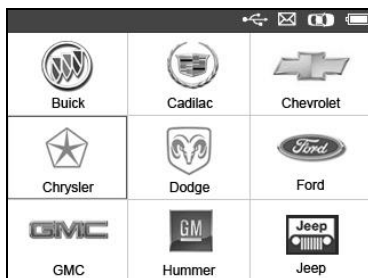

Figure 3.2
- 3) From the vehicle make screen, select a specific vehicle manufacture and press the **Y** button. (Figure 3.2)